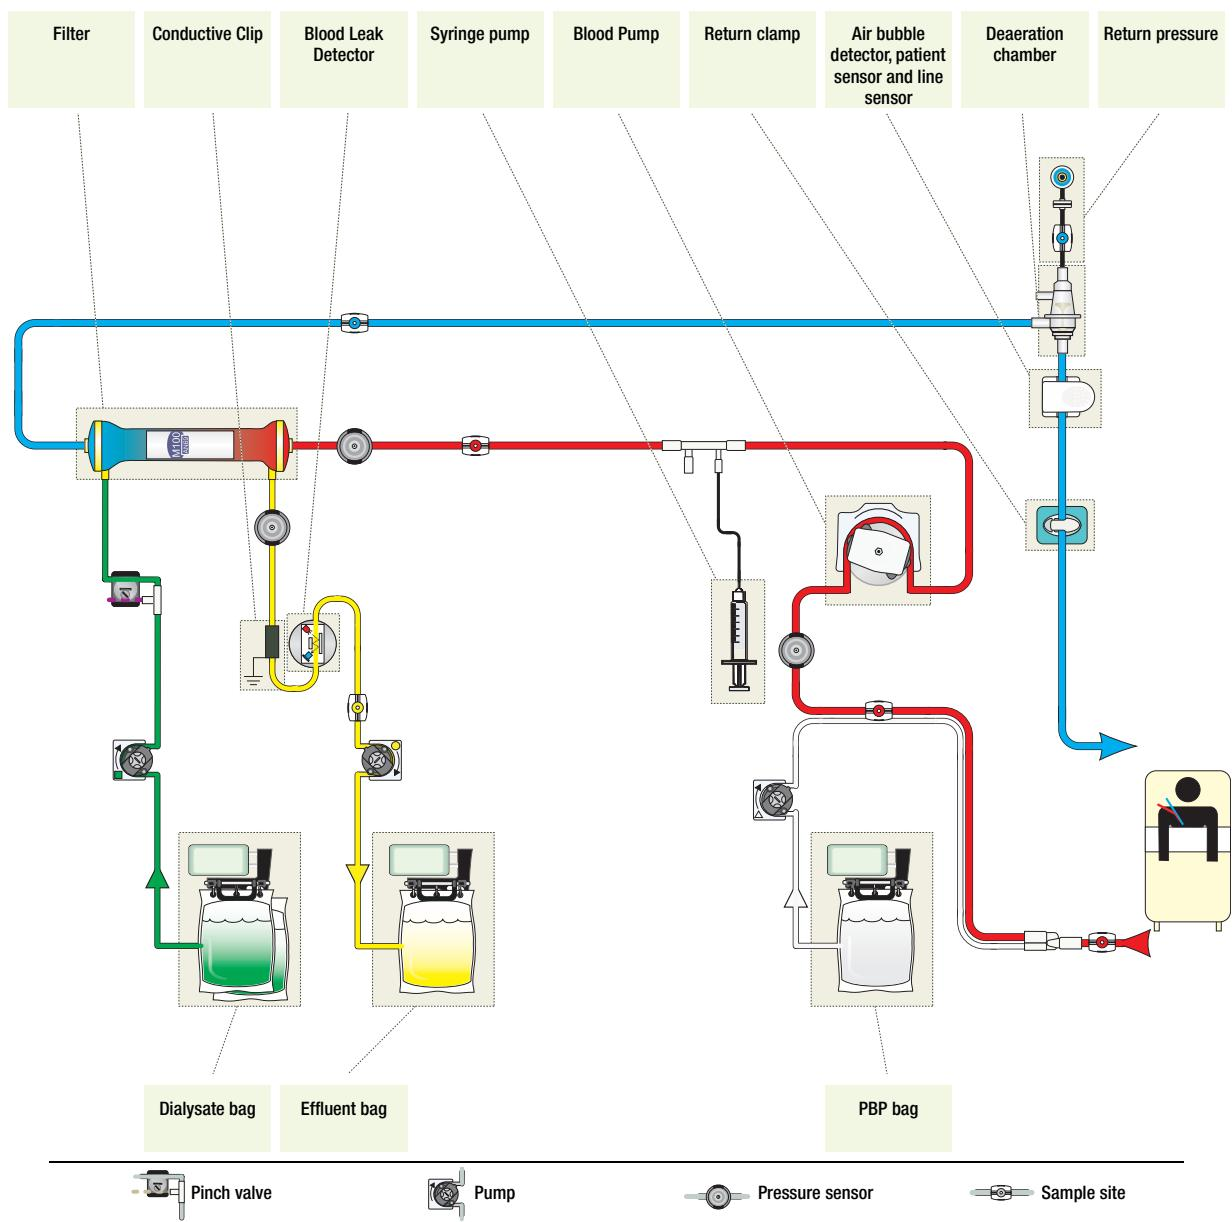

Figure 1.3 CVVHD flow
- CVVHD (Continuous Veno-venous Hemodialysis) having the same implementation as CVVHD in CRRT (see Figure 1.3 on page 18)